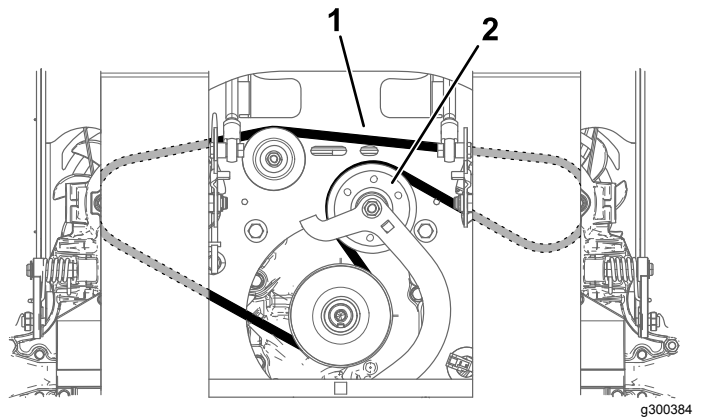

Figure 58
6. Remove the belt (Figure 58).
8. Install the new belt, routing it around the pulleys as shown in Figure 58.